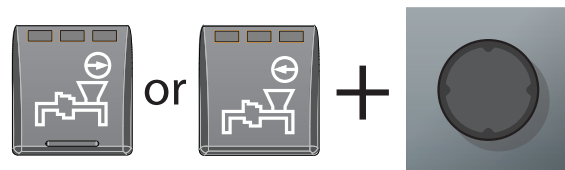

Figure 19
3. Press and hold either the concrete pump forward or reverse button on the pendant remote while simultaneously pressing the ram change button next to the waterbox; both buttons must be pressed within a half second of each other in order to move the differential cylinders (Figure 19). To stop the differential cylinders, release either the concrete pump forward or reverse button or ram change button. To activate the differential cylinder again, release any pressed button then simultaneously press the concrete pump forward or reverse button and ram change button again.